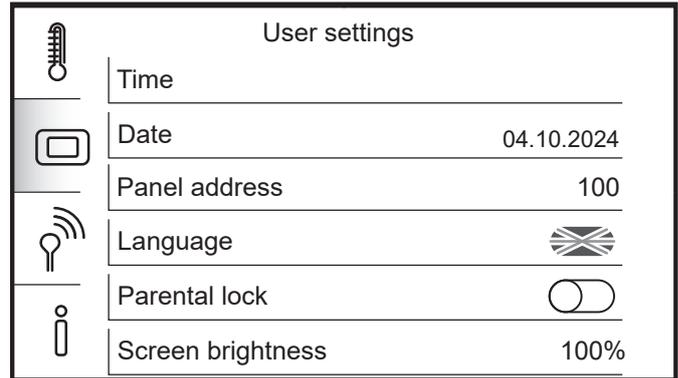

**Figure 7-15:** Edit Circuit 2 settings
circuit settings. Refer to Figure 7-15.
4. Swiping the touchscreen display scroll down to 'CIRCUIT STOP FROM PRESET TEMP'. Tap the icon to switch on. (Refer to Figure 7-15).
**'PUMP ONLY' must be enabled. Refer to Figure 7-15.**